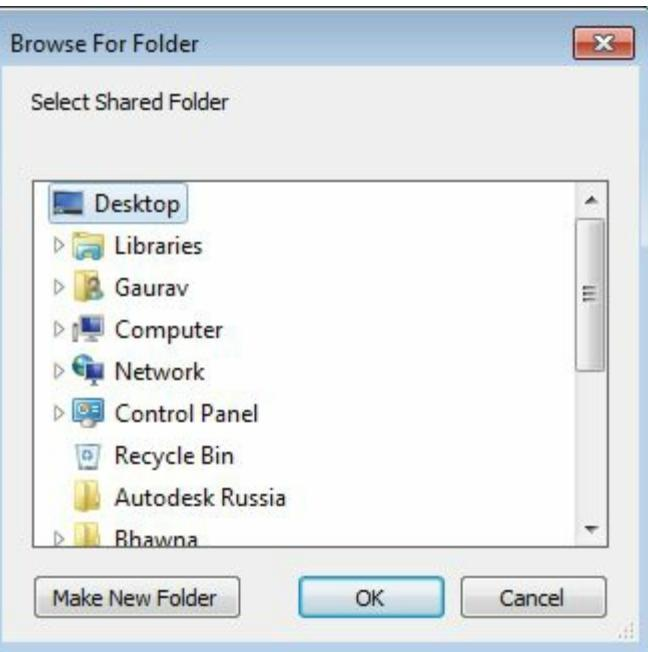

Figure-5. Browse For Folder dialog box
- Click on the ellipse button (...) to browse for shared folder. The **Browse For Folder** dialog box will be displayed; refer to Figure-5.